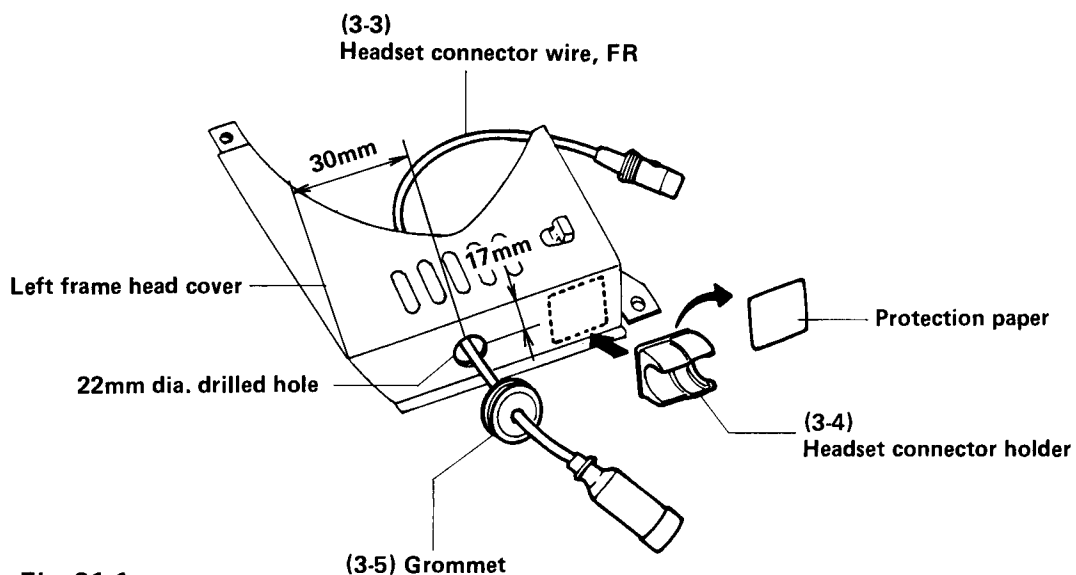

Fig. 21-1
- 1) Drill a hole of 22mm dia. in the left frame head cover as shown in Fig. 21-1.
- 3) Attach the headset connector holder (3-4) in position as shown in Fig. 21-1 by